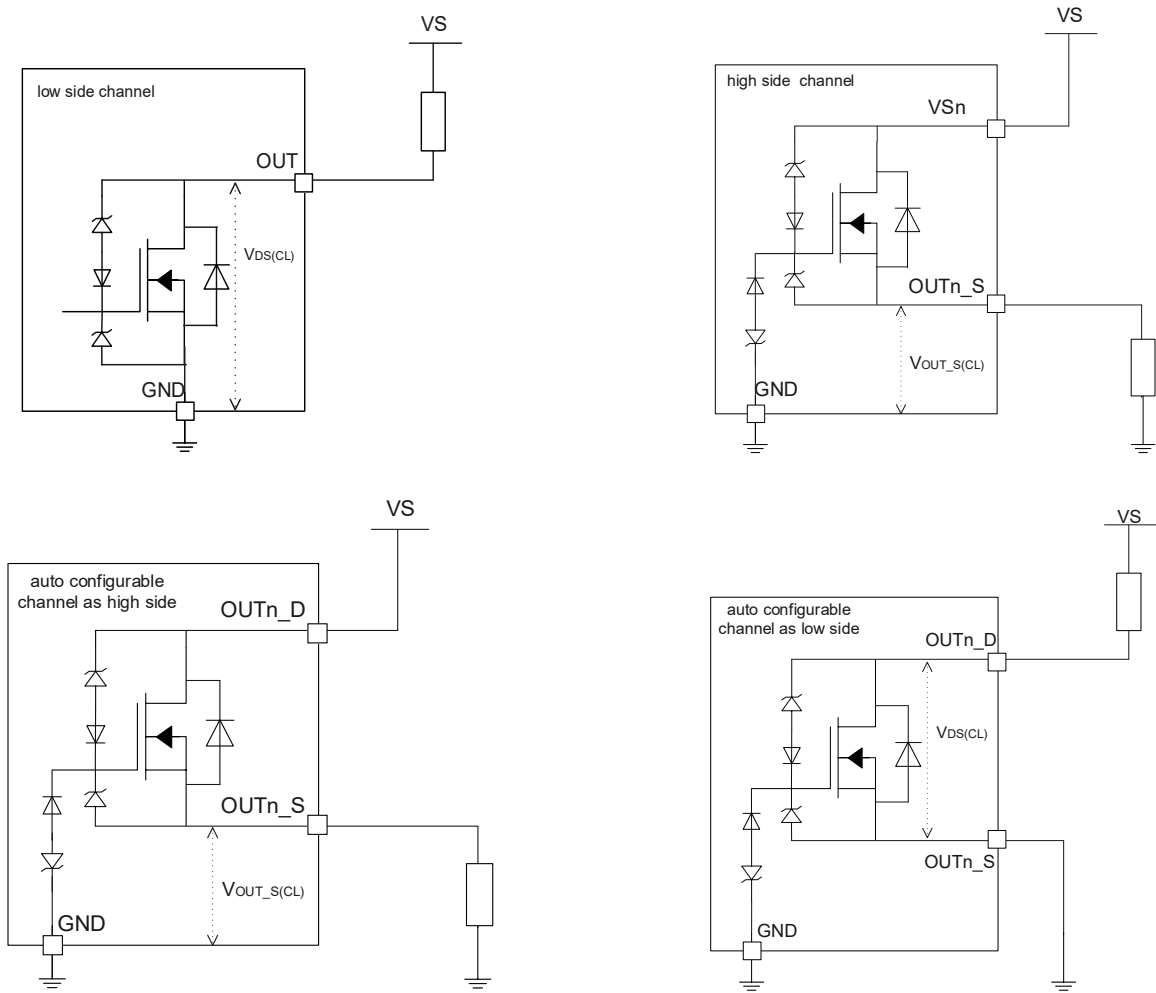

Figure 7.2 Output Clamp concept
**Figure 7.2** shows a concept drawing of the implementation. The clamping structure protects the device in all operative modes (Sleep, Idle, Active, Limp Home).